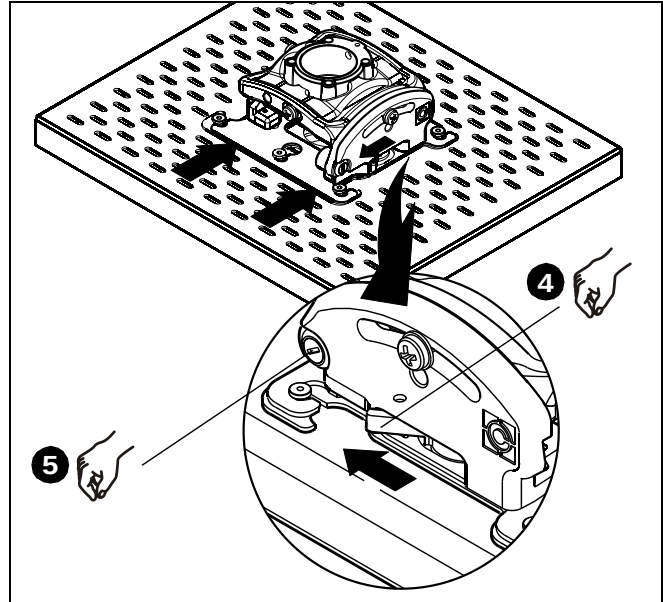

Figure 7
4. Move locking lever to "Locked" position. (See Figure 7)
5. Insert key into lock and turn to secure projector to mount. (See Figure 7)